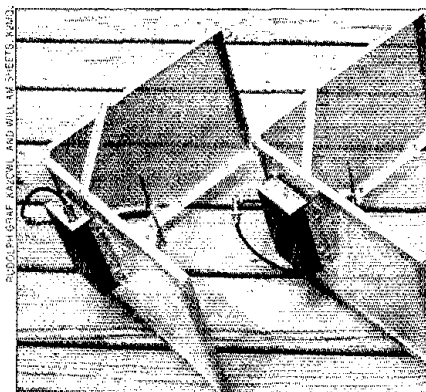

Figure 4—The 915-MHz transmitter and a companion downconverter mounted on homemade corner reflector antennas.
Use the transmitter with a good antenna. At 915 MHz, antennas are small and a good (>10 dB) gain antenna should be used. The three most important factors determining range of transmission are: (1) antennas; (2) antennas and (3) antennas. We ran tests between the home and a mobile receiving setup using 10-dB-gain corner reflectors at the transmitter and receiver (see Figure 4). These tests were run in hilly country in northeastern New York state. Excellent initial results were achieved over a path of 7 to 15 miles, with the transmitter at K2MQJ's home and a 12-V TV receiver and downconverter in the mobile setup. If there were no high hills in the path, a picture could be received at many locations. The receive antenna fed a downconverter with output on channel 3. The antenna height at the receiver was that of the author's Chevrolet Blazer, roughly 6 feet above ground. At times, the antenna was inside the vehicle, facing out the window. We even detected a P3 picture at one spot 17 miles from the transmitter. The transmitter was mounted on the corner reflector antenna, 25 feet off the ground. The results were quite good.
By the way, this setup, using two corner reflectors (such as those shown in Figure 4), makes an excellent demonstration of amateur television. If you have never played with ATV, it's quite impressive to see the person with whom you're having the QSO. A path of several miles can be covered with this setup, more with two good Yagis or parabolic reflectors. This is adequate for